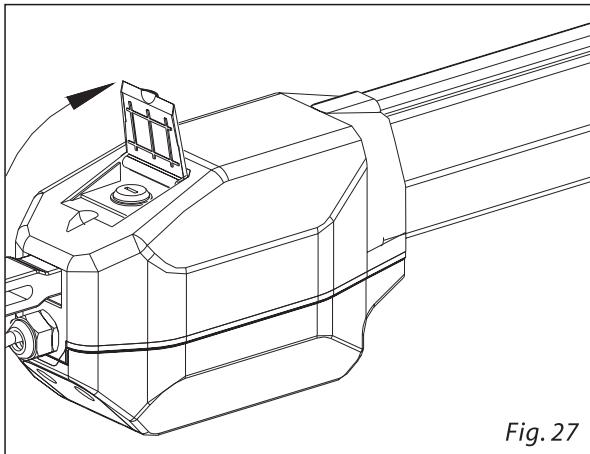

Fig. 27
- 2) Open the protective cap, Fig.27